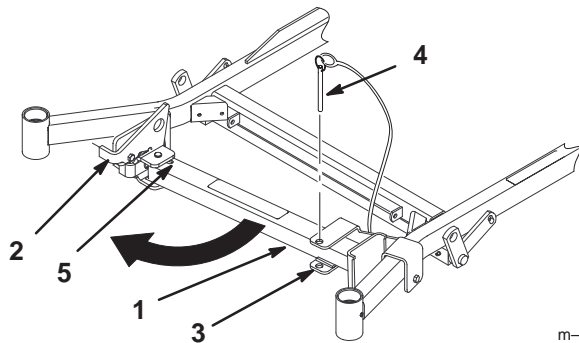

Figure 23
2. Remove the bracket pin (Fig. 23).
3. Raise the latch. Swing the stand foot out front and slide the stand toward the machine, into the bottom of the slot (Fig. 23 and 24).
4. Return the stand to its rest position (Fig. 23).